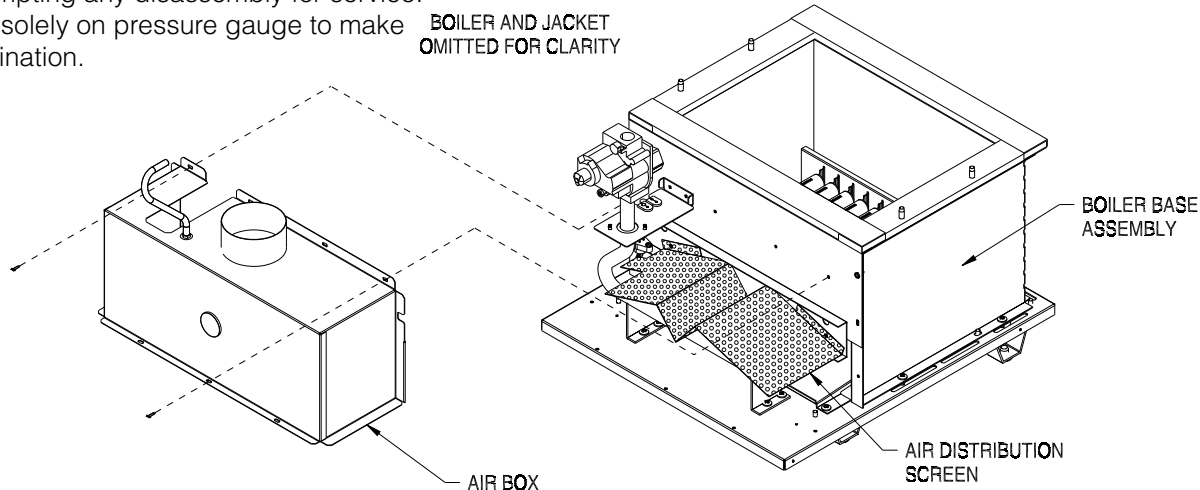

Figure 14-1: Direct Vent Air Box Removal
NOTICE: If the boiler is equipped with a **Direct Vent Conversion Kit**, it will be necessary to remove the air intake box from the boiler in order to access the burners and combustion chamber. This is done by disconnecting the air intake hose and regulator reference hose from the boiler and then removing the mounting screws holding the box in place shown in Figure 14-1.
- Check the air intake system, including the air inlet terminal and air distribution screen (Fig 14-1), for blockages, corrosion, or other deterioration.